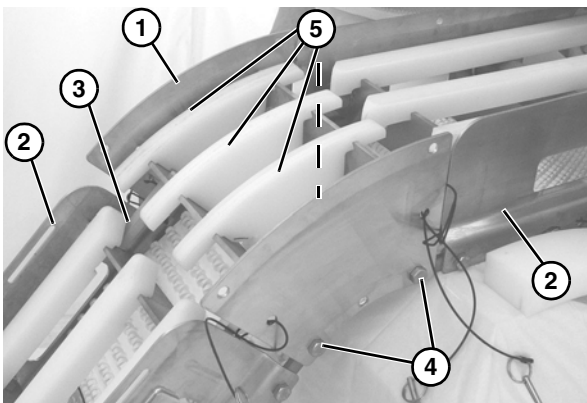

**Figure 6**
3. Connect the frame sections by bolting the hex post connectors (**Figure 6, item 1**) the sections of frame.